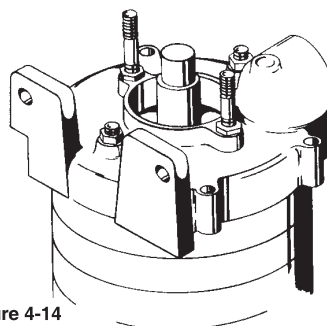

Figure 4-14
22. Install two nuts (#20) onto the guide rods and tighten enough to hold the entire assembly in place. Do not try to tighten them to their final position.(refer to figure 4-14)